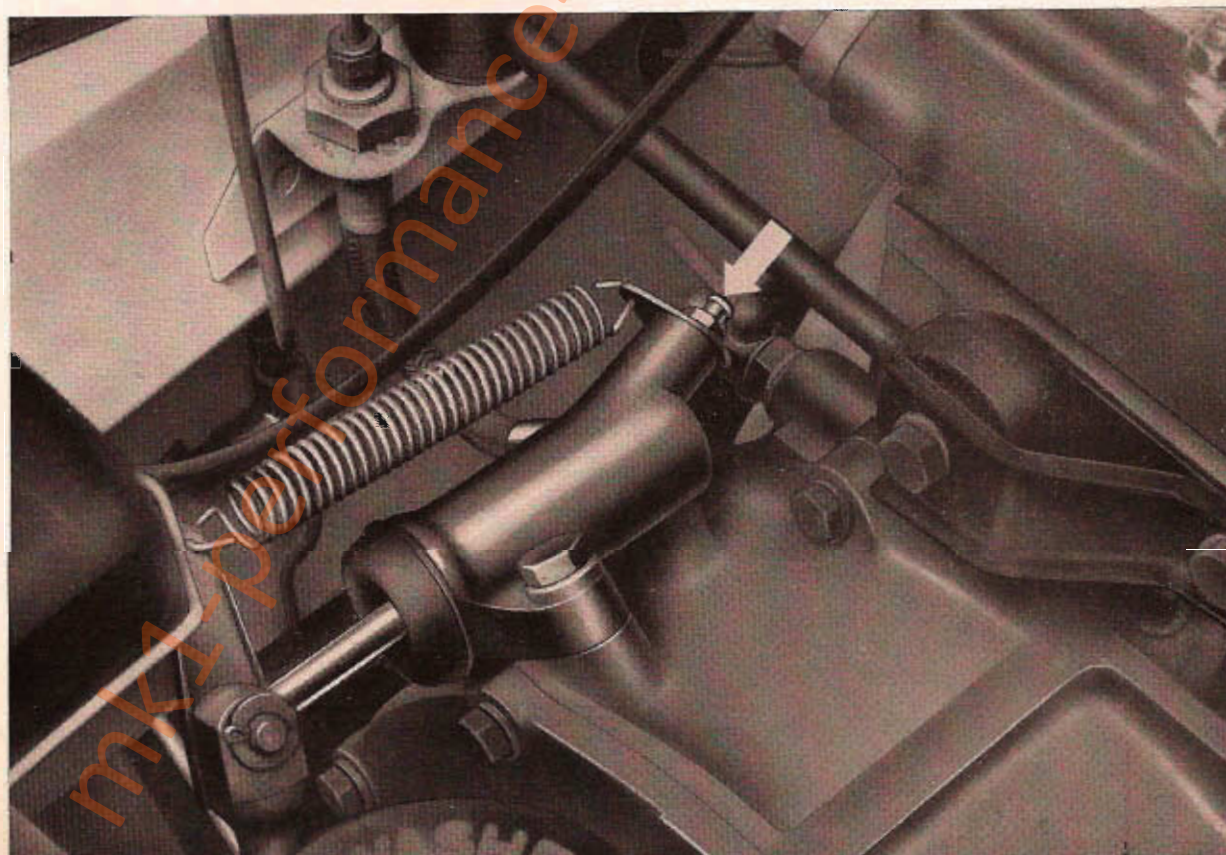

Fig. 16. Location of Bleeder Screw in Clutch Slave Cylinder (shown by white arrow).
## (2) Bleeding the Clutch System (Refer to Fig. 16)